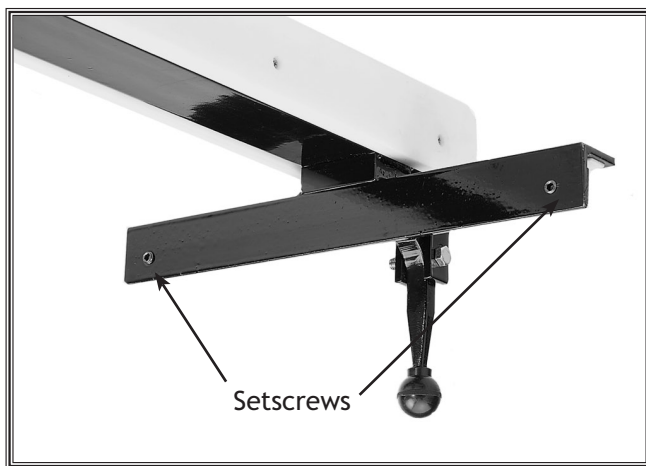

Figure 9. Setscrews on bracket.
1. Locate the two setscrews on the lower edge of the fence bracket. See Figure 9.